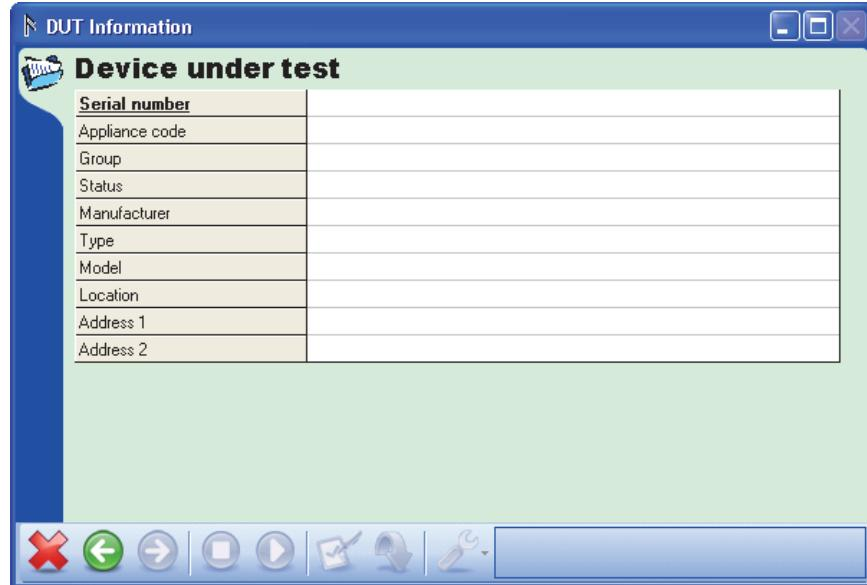

Figure 2-5. Test Guide DUT Information Tab
Figure 2-5 shows the DUT Information window with the default DUT fields. You must fill in all DUT fields before the **Next (2)** button is enabled.